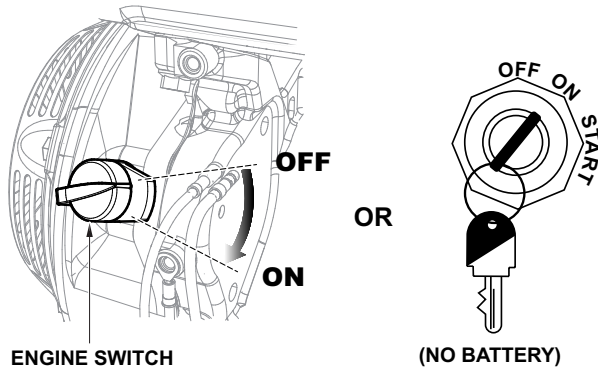

Figure 17. Engine ON/OFF Switch (Recoil Start)
2. Place the Engine ON/OFF switch (Figure 17) in the **ON** position.